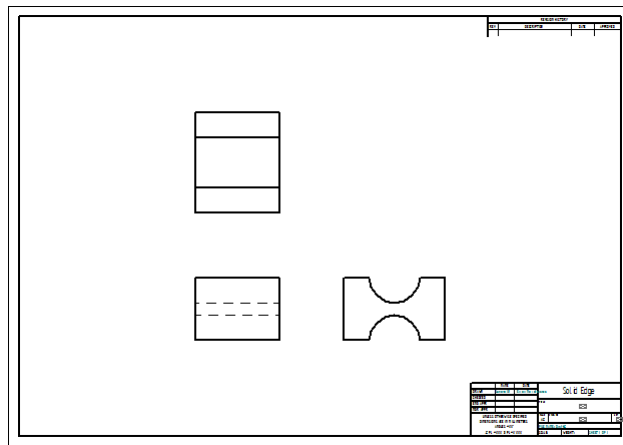

Figure 2-62 Sheet after generating drawing views
6. Enter the file name as *c02tut3.par* in the **File name** edit box. Next, choose the **Save** option from this dialog box; the part file gets saved and the drawing views are generated in the drawing area, as shown in Figure 2-62.